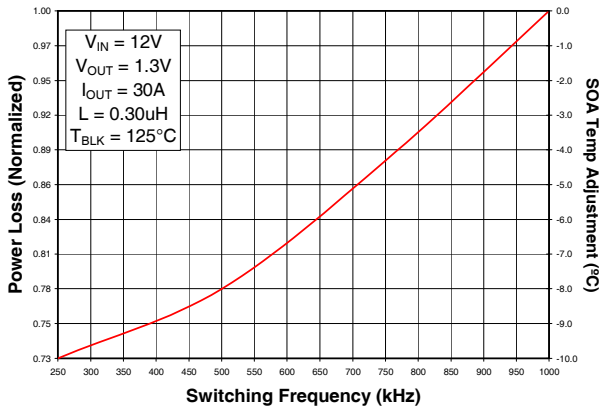

Fig. 5: Normalized Power Loss vs. Frequency
- (Fig. 5) Normalized power loss for frequency ≈ 0.955
- (Fig. 5) Normalized SOA Temperature for frequency $\approx -1.8^{\circ}\text{C}$